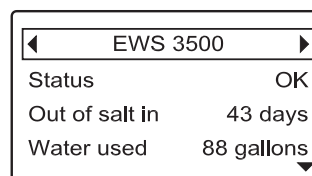

FIG. 99
1. Press the remote's LEFT (◀) or RIGHT (▶) buttons to manually advance to the status screen for the device you want to check. The device name will show in the header. (See Figure 99).